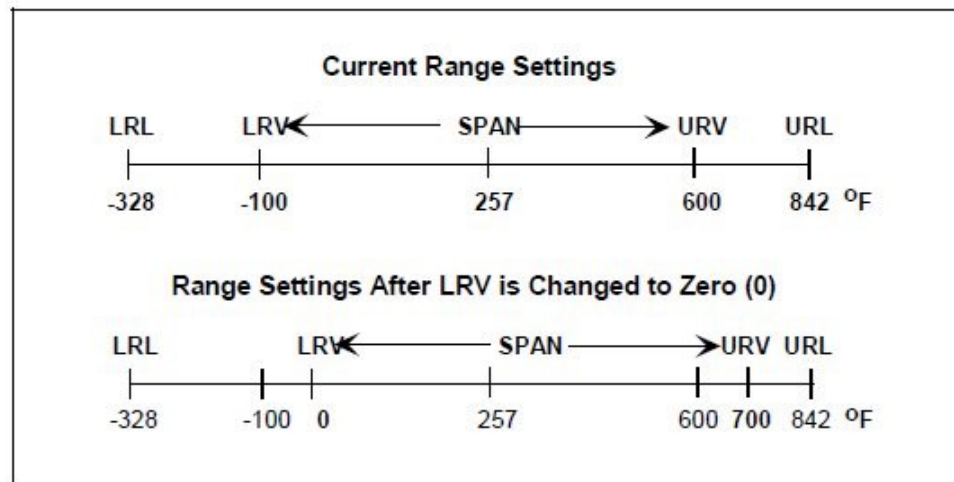

Figure 2-3: Current Range Settings
- The URV changes automatically to compensate for any changes in the LRV and maintain the present span ($URV - LRV$). See Figure 2-3 for an example.